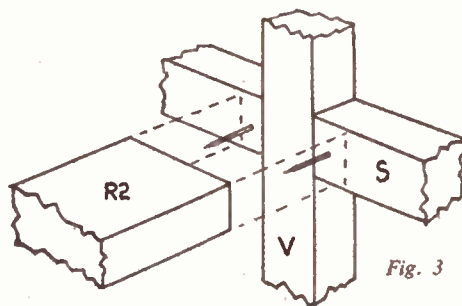

Fig. 3
Lastly, fix in the central drawer runner (R2) by glue and nails through the back board and through (S). See Fig. 3.